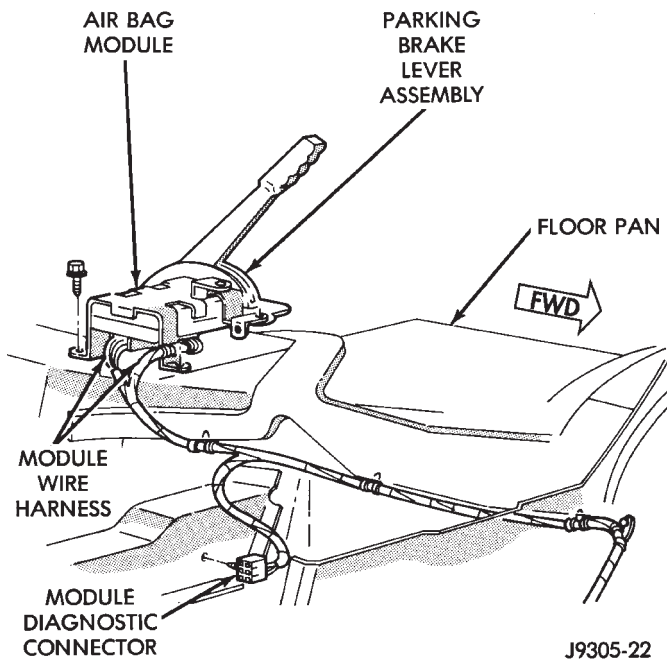

Fig. 3 Air Bag Module Mounting
- (9) Disconnect wires at parking brake switch and at air bag module (Figs. 3 and 5). Note that air bag module has two sets of wires connected to it.
- (4) Connect parking brake switch wire.
- (5) Install air bag module (Fig. 3). Be sure all module wires harnesses are securely connected.
- (6) Install parking lever cover.
- (7) Install cup holder in cover.
- (8) Raise vehicle.
- (9) Assemble front cable, cable tensioner and equalizer.
- (10) Adjust parking brake front cable. Refer to procedure in this section.
- (11) Lower vehicle.
- (12) Connect battery negative cable.
- (8) Disconnect wires at parking brake switch and at air bag module (Figs. 3 and 7). Note that air bag module has two sets of wires connected to it.
- (9) Remove screws attaching air bag module to floorpan and parking brake lever. Then move module aside for access to lever.
- (10) Remove screws attaching parking brake lever to bracket and lift lever upward for access to front cable.
- (11) Disconnect front cable from parking brake lever and remove cable.